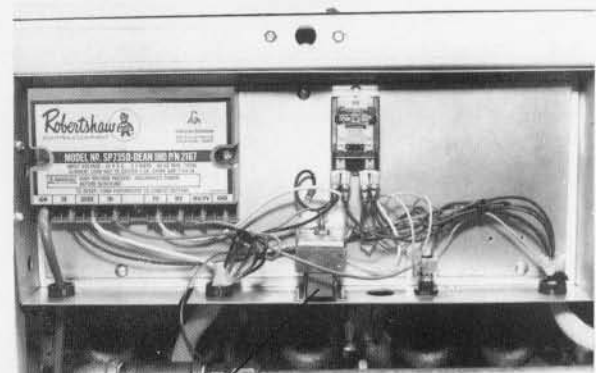

Figure 22
- Remove hi-limit thermostat body from component box (Fig. 22).